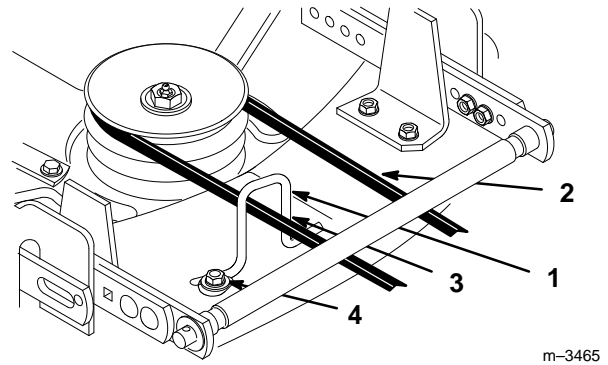

Figure 14
- 9. Loosen the belt guide bolt (Fig. 14).
- 10. Adjust the belt guide so that it just touches the belt on the inside arm of the guide, toward the center of the deck (Fig. 14).